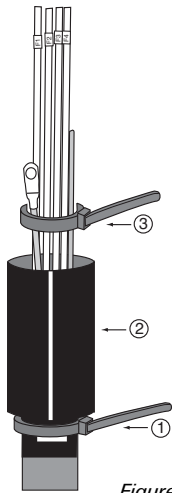

Figure 7
- Place a tie wrap at the pencil mark on the sheath. Slide the appropriate heat-shrinkable tube over the adhesive rings. Let the tube slide down and rest on the tie wrap. (Figure 7, step 1, 2)
- Place a tie wrap around all the transportation tubes (and bonding wire if present) above the heat-shrinkable tube. (Figure 7, step 3)